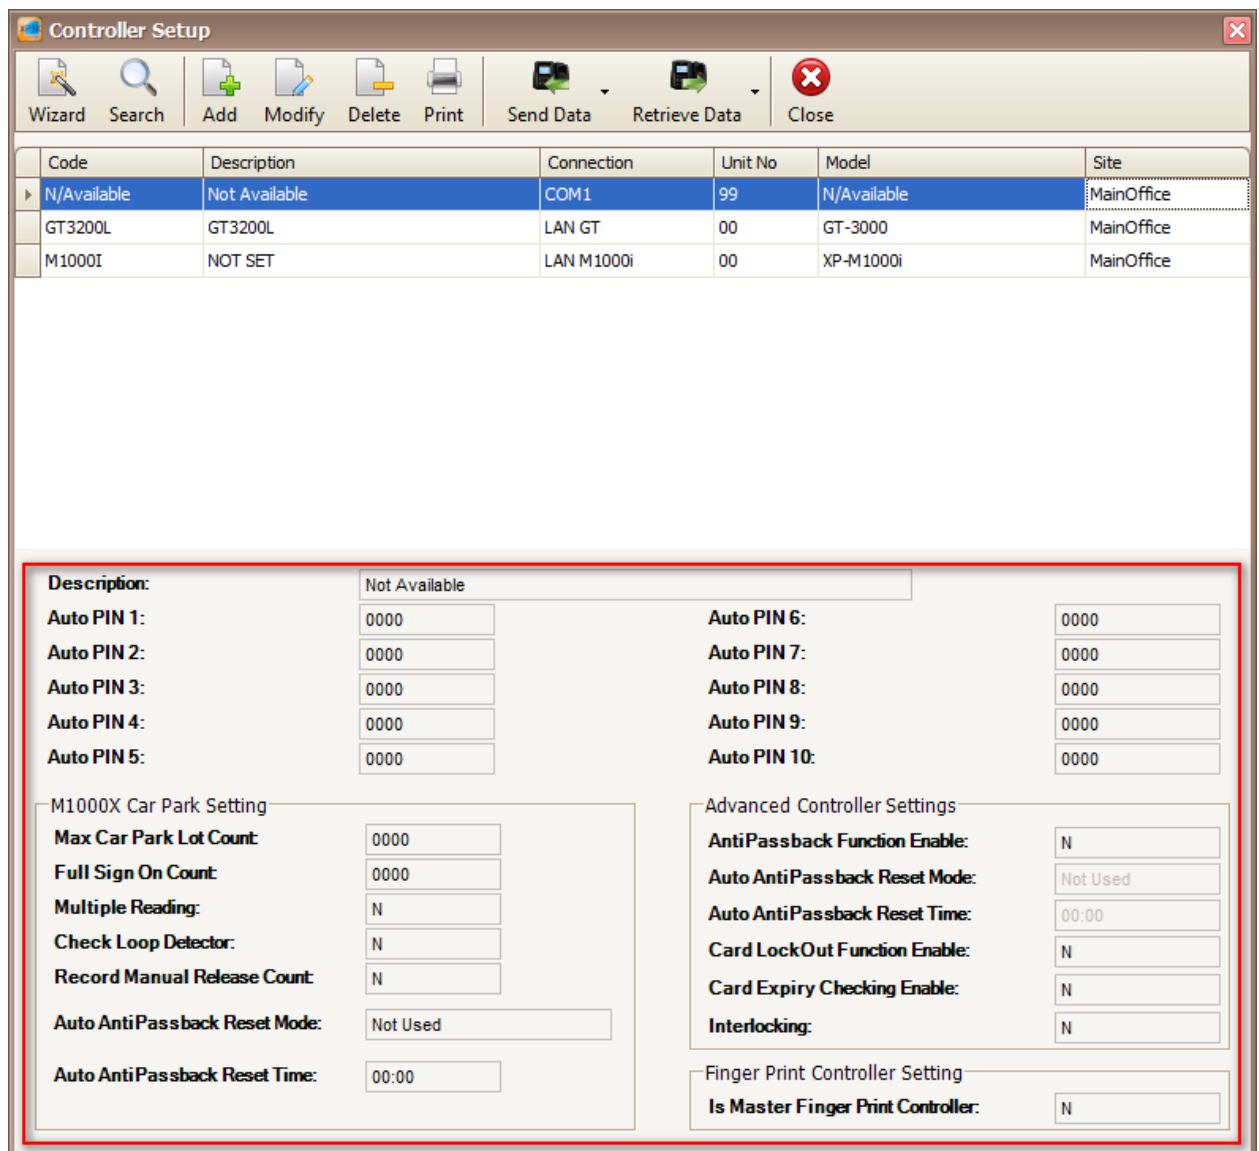

Figure 111 - Controller Setup
2. The following window will be shown (Refer **Figure 111**). On the Controller Setup window, you can see the information of the controller settings on the bottom of the window.